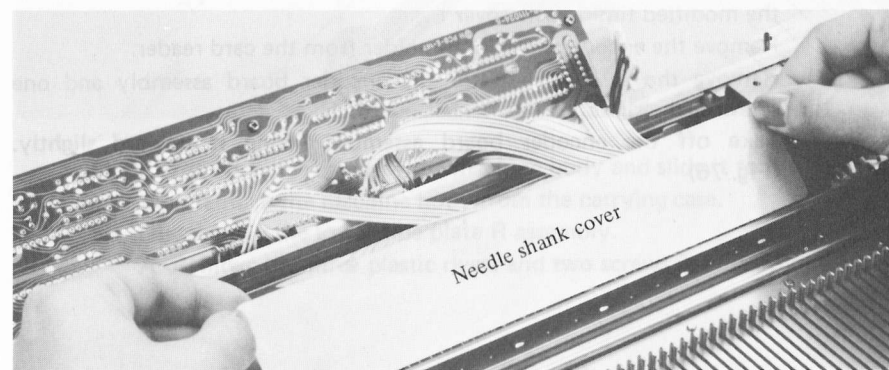

Fig. 74
- C. Insert the notch of the needle shank cover to the carrying case reinforcing plate of the rear rail side and the other side of it between the setting base of the carrying case. (Fig. 74)